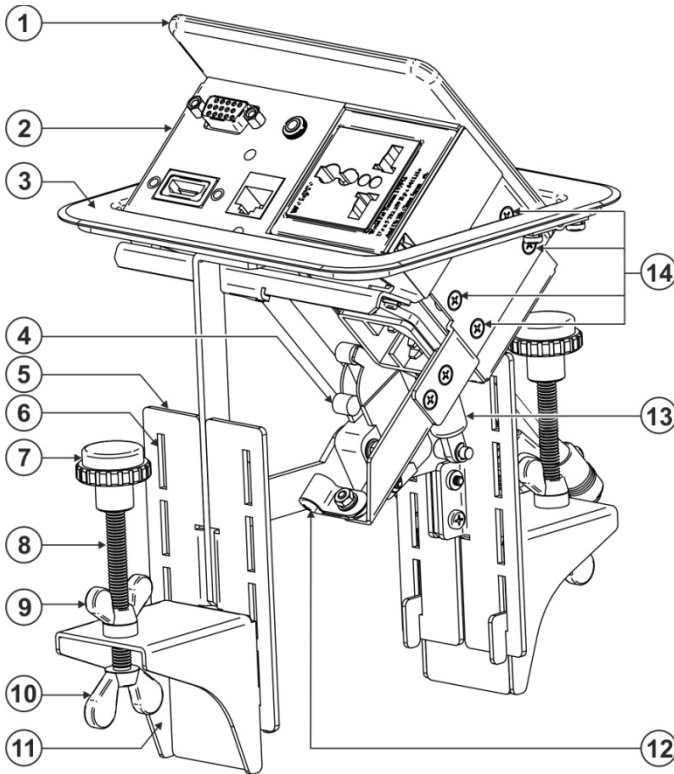

Figure 2: Defining the Parts of the TBUS-201xl Pop-up Table Connection Bus
6. Insert the power cord into the power connector lock and tighten the screw (see Figure 2, item 12) to secure the power cable.